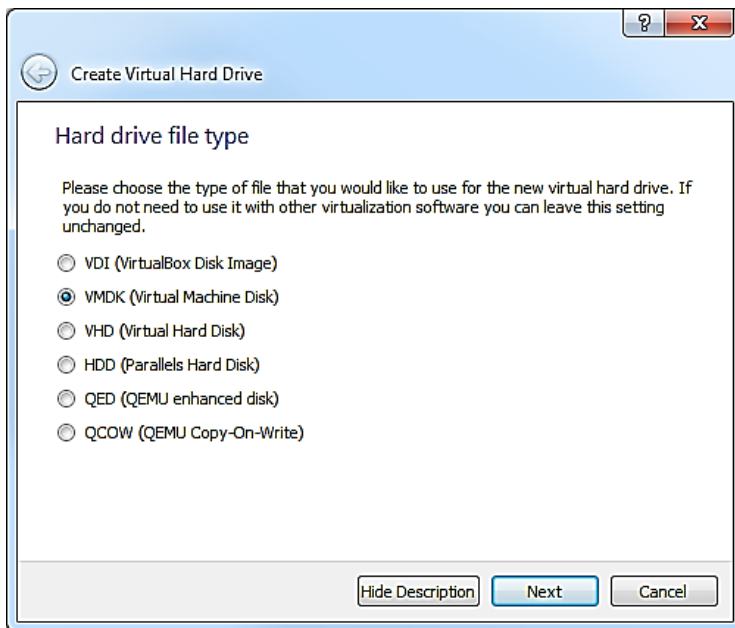

Figure 7: Creating Virtual Hard Drive
5. Choose disk type. As shown in the Figure 7, select VMDK and then select Next.